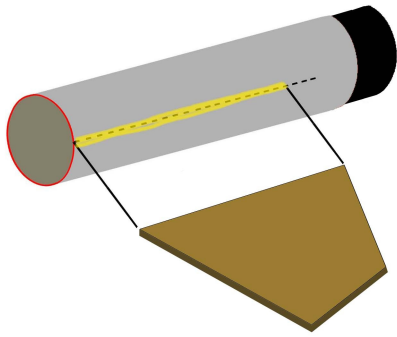

Figure 10
- **Step 16** Apply a bead of full-strength glue to the root edge of a booster fin, and to the booster body tube along one of the alignment lines. As shown in Fig. 10, press the fin against the tube, with the trailing edge touching the tube edge, and hold the fin in place for about 12 seconds before releasing. Use a moist, soft-bristled hobby brush to smooth out the glue that squeezes out from the joint and to form the initial fillet. Slide two booster fin alignment guides over the tube, and adjust the fin gently to fit into one of the slots. Separate the guides about 1.5" apart, and allow the fin 20 minutes to dry before removing them. Repeat this sequence for each of the remaining three booster fins.